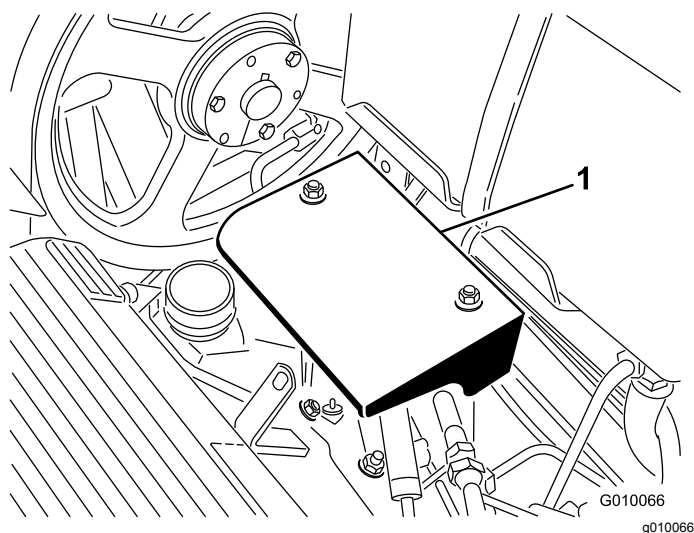

Figure 57
3. Remove the 2 pump shield mounting nuts and remove the shield (Figure 57).